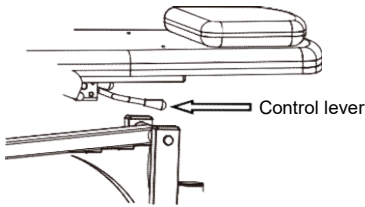

Figure 7
- As shown in Figure 7, pull the control lever (in the direction shown by the arrow) to adjust the angle of the head section.